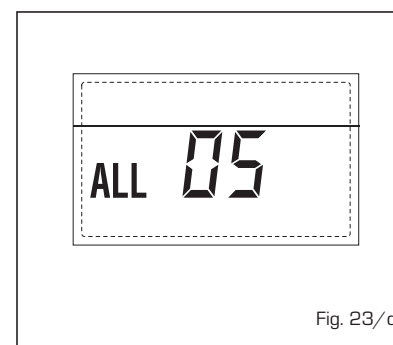

Fig. 23/d
– LOCKOUT ALARM 06 (fig. 23/e)